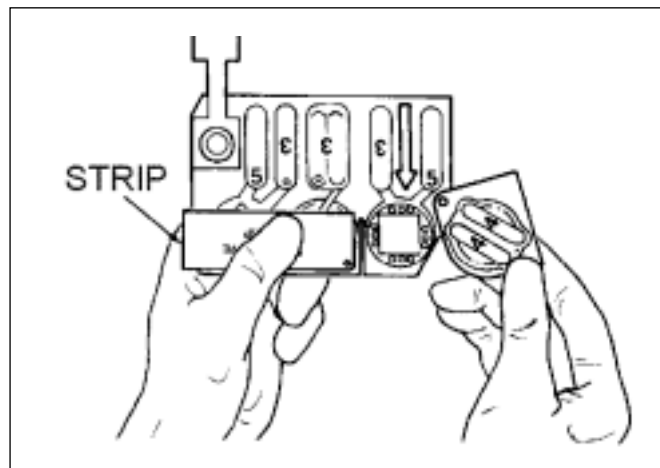

Fig 4-14. Crushing center ampoules.
- (5) Hold the sampler detector with the test spots or arrow pointing up.
- (6) Using the heater pads, crush four ampoules in the three center pockets marked number 3 (fig 4-14).